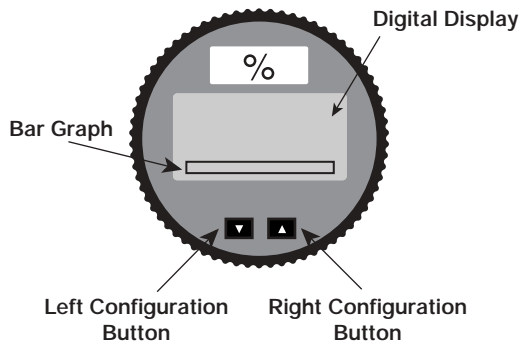

Figure 22
3. Simultaneously press and immediately release the left and right configuration buttons. See Figure 22.